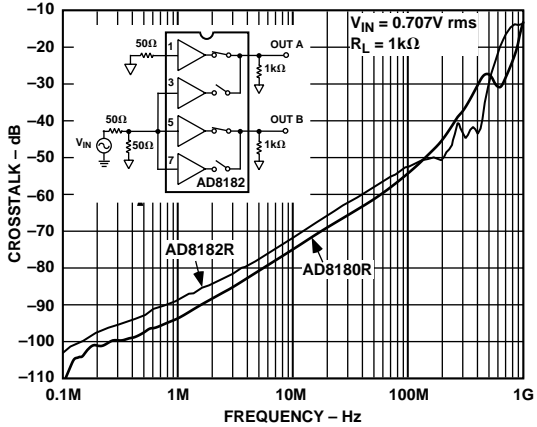

Figure 13. All-Hostile Crosstalk vs. Frequency
- ⁶Select input which is not being driven (i.e., if SELECT is Logic 1, input activated is IN1); drive all other inputs with $V_{IN} = 0.707$ V rms and monitor output at $f = 5$ and 30 MHz. $R_L = 1$ k Ω (see Figure 13).